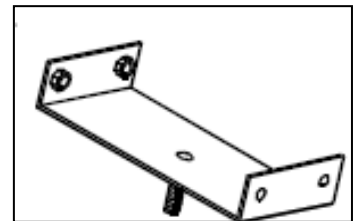

Figure 2
3. Install stop channel (433-2628) Figure 2, between the flanges of the top channel using four 8-32 x 3/8 screws. NOTE: The stud in the center of the stop channel should face down.